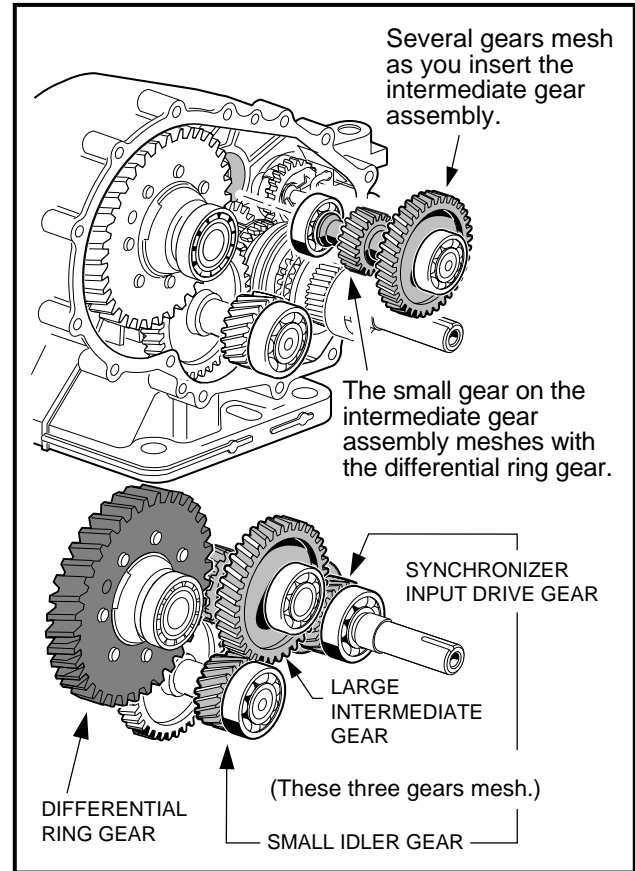

Figure 16-86 Gear Alignment
- 7.5. Install the intermediate gear assembly into the case as shown (**Figure 16-86, Page 16-36**). Do not seat the assembly into the bore, but make sure the output ring gear meshes with the input drive gear (55) on the synchronizer gear assembly, and with the small gear on the idler shaft (68) (**Figure 16-48, Page 16-20**).